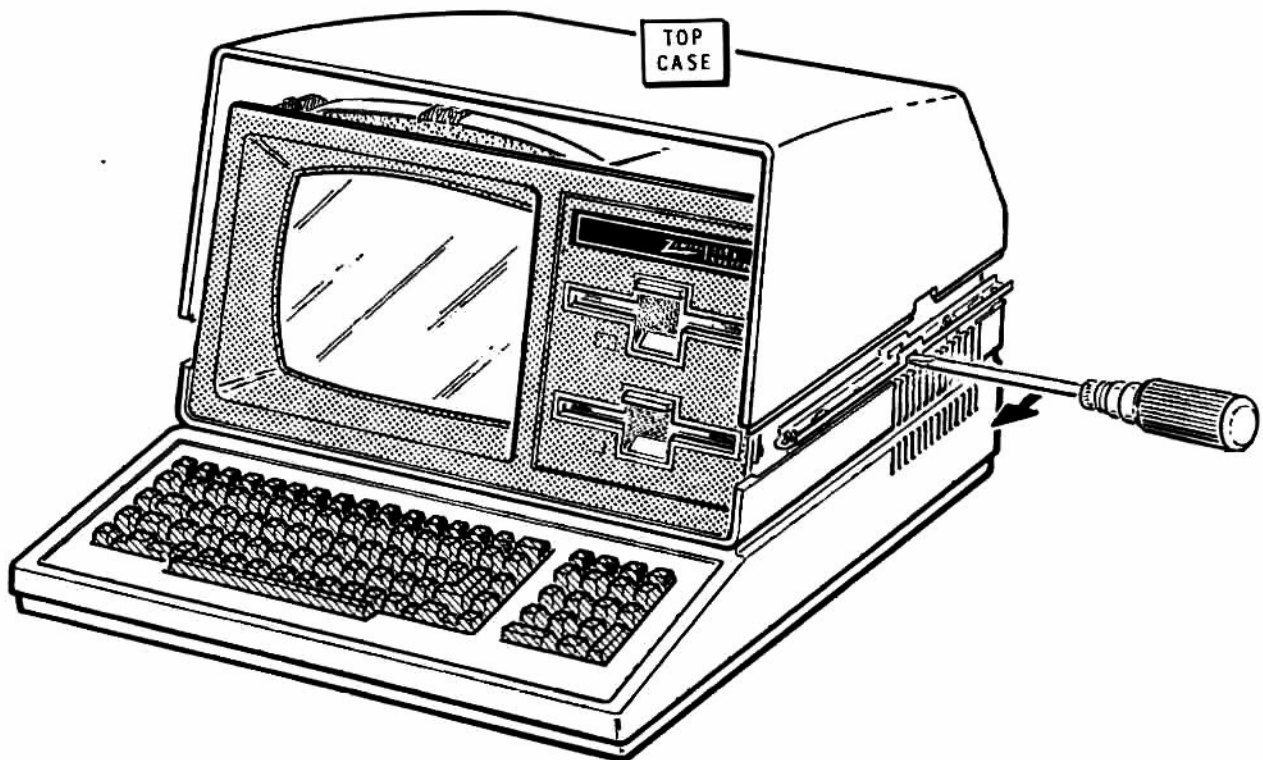

Figure 2.15. Top Case Installation
- Refer to Figure 2.15. Set the top case straight down on the base. Slide the latches all the way forward if they fail to snap into place.